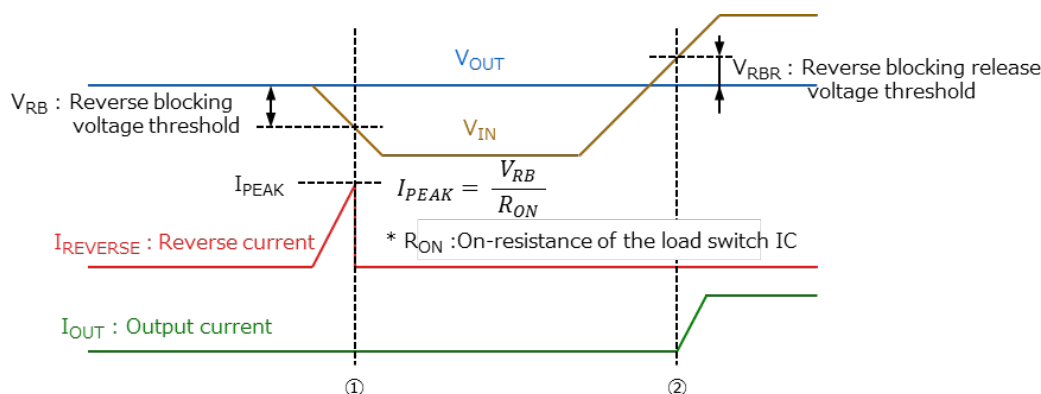

Figure 3.11 Operation of the true reverse-current blocking function
Figure 3.11 shows the operation of the true reverse-current blocking function. When V_{OUT} exceeds V_{IN} , reverse current ($I_{REVERSE}$) begins flowing. When V_{OUT} becomes higher than V_{IN} by V_{RB} (reverse blocking voltage threshold) at ①, reverse-current blocking is enabled to limit $I_{REVERSE}$. V_{IN} rises again while the reverse-current blocking circuit is active. When V_{IN} becomes higher than V_{OUT} by V_{RBR} (reverse blocking release voltage threshold) at ②, reverse-current blocking is disabled, causing output current (I_{OUT}) to begin flowing again. The maximum reverse current (I_{PEAK}) can be calculated as (3-1):